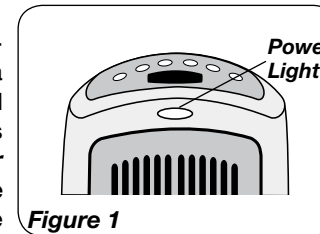

Figure 1
- When the Heater is initially plugged in, there will be a "beep" and the **Power Light** will come on indicating that there is power to the unit. The **Power Light** will remain lit until the Heater is unplugged from the electrical outlet. (Figure 1)